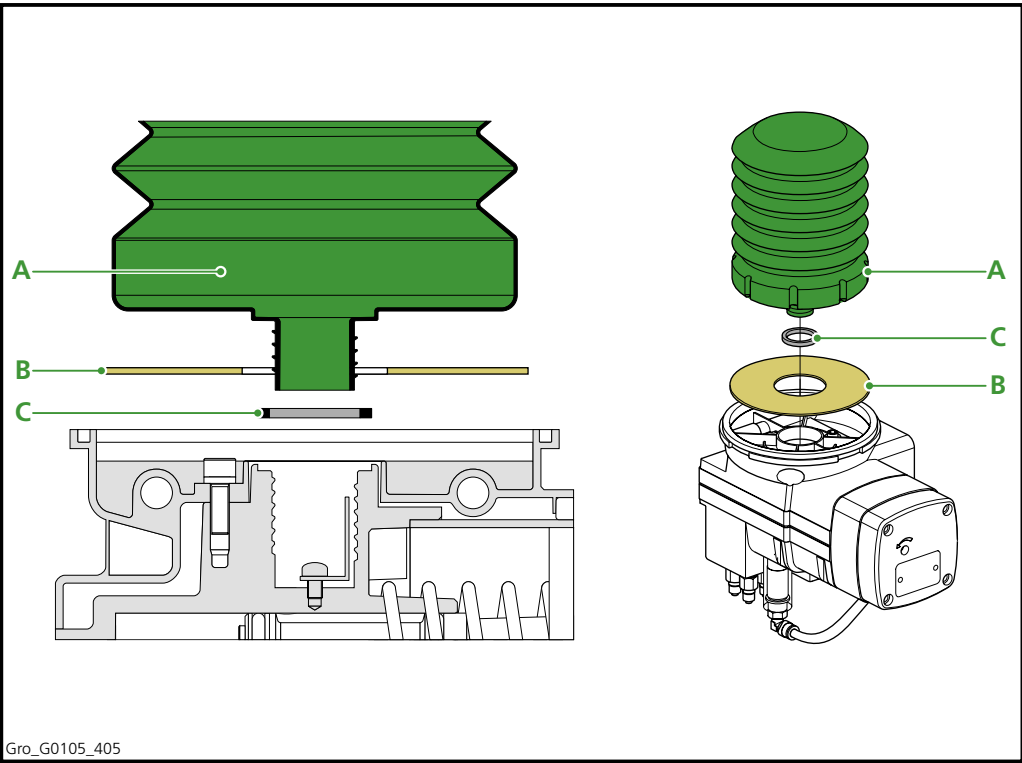

Figure 4.6 Rubber gasket and cardboard disc
- 3. Remove the rubber gasket (Figure 4.6.C) and the cardboard disc (Figure 4.6.B) and replace them with the new parts, supplied with the new cartridge. Fit the cartridge with only one rubber gasket.